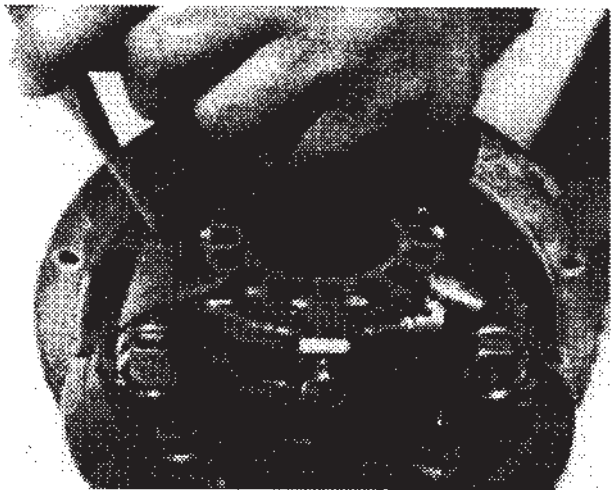

Figure 2
Mark the carrier and bearing cap on the **ring gear side with one punch mark** and on the **other side with two marks (Figure 2)**. The caps are *not* interchangeable! Also mark each bearing adjuster directly under the lock with this same mark to note its side and rotational position. *This mark is very important to correct re-assembly!*
5. Install the correctly-marked cap. Use the bolts as guides by turning them in two threads or so and then sliding the cap down to meet the case. Be sure that the cap threads fit into those in the adjuster. Do not force anything. The cap should slide down very close to the carrier surface. Tighten the bolts until they are snug (see **Figure 2**).
10. Install the adjuster locks and torque the bolts. Be sure that they are located in the marked holes (as shown in **Figure 2**).